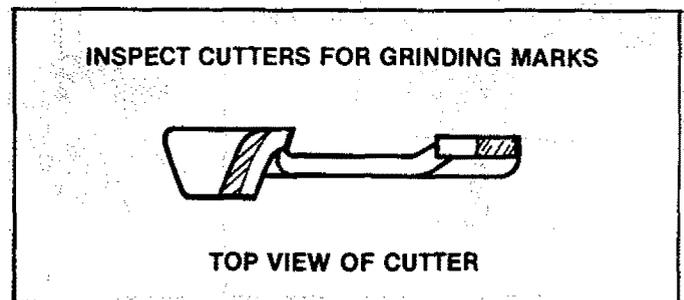

Figure 20
**NOTE:** A properly sharpened cutter will show grinding marks across its entire width. Figure 20. If cutters do not appear sharp or burrs are seen on the top front of the cutters, repeat Steps "7" and "8".